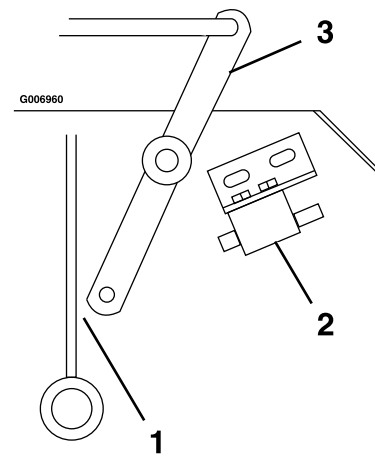
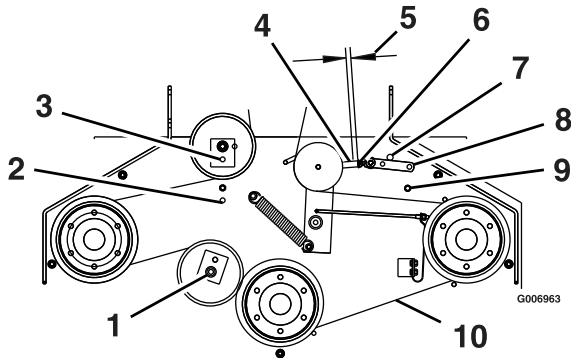

Figure 14
Figure 15
2. With PTO engaged (lever pulled up, adjust the linkage length to where the lower end of the bellcrank just clears the axle support gusset (see Figure 14). Make sure the assist arm is against the rear assist arm stop on the deck (see Figure 15). Push the lever down to the disengaged position. The assist arm should contact the front assist arm stop on the deck. If it does not contact, readjust so that the bellcrank is closer to the gusset.
mower to tighten, and toward front of mower to loosen belt tension (see Figure 15).
For 48 inch Decks: If there is no adjustment left in the turnbuckle and the belt is still loose, the rear idler pulley can be repositioned in the front hole (see Figure 15). The belt guide located next to the pulley must also be repositioned in the front hole when the pulley is moved. The turnbuckle will need to be readjusted.
5. Proper belt tension will require about 10 lb (4.5 kg) side pull on belt, halfway between pulleys (see Figure 15, item 10–Point A) to deflect belt 1/2 inch (1.3 cm).